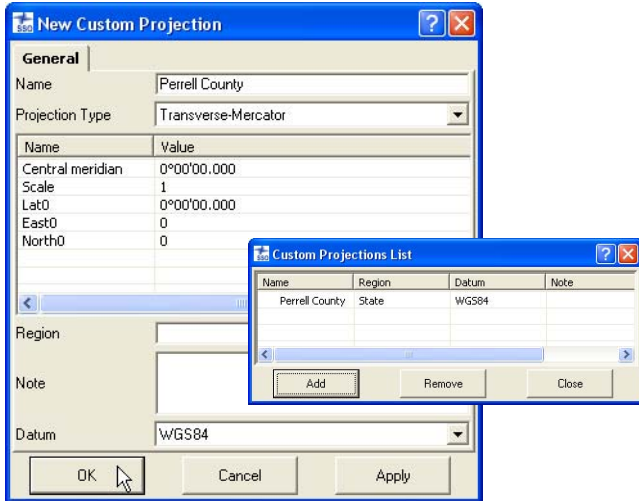

Figure 2-19. New Custom Projection
3. On the *New Custom Projection* dialog box, enter the following information and click **OK** (Figure 2-19):